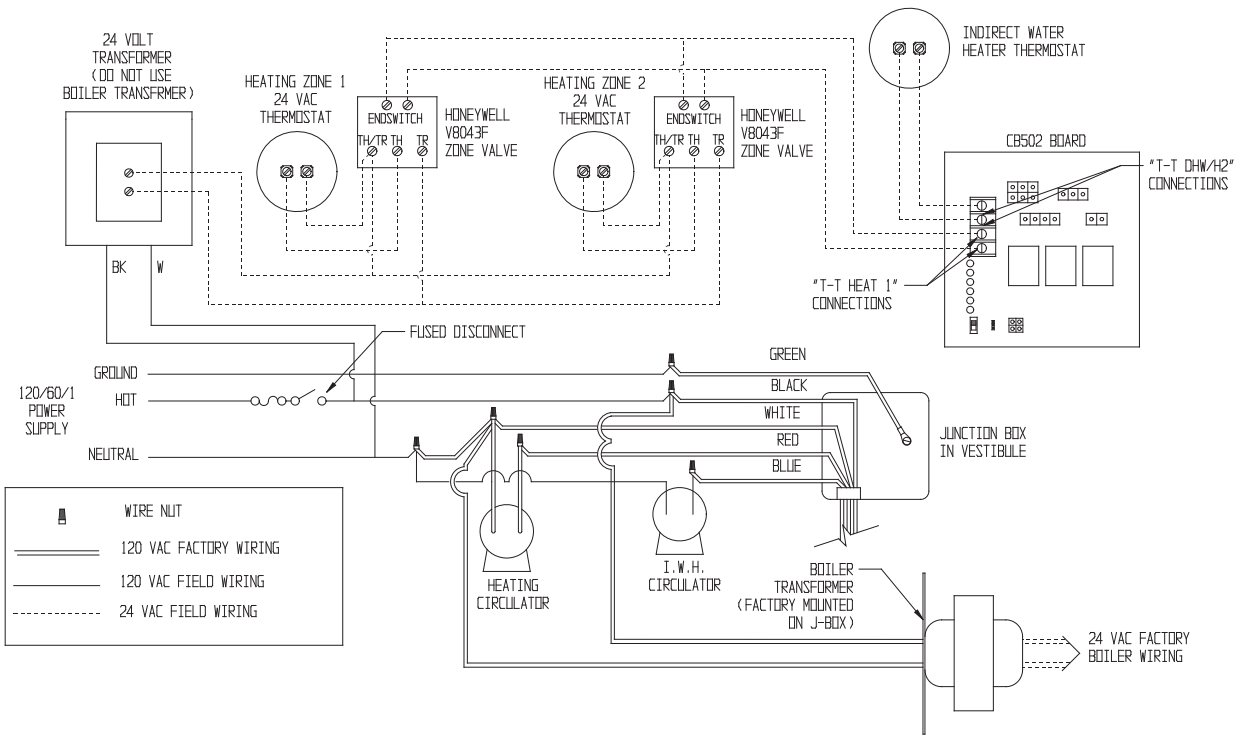

FIGURE 34: CB502 CONTROL SYSTEM - FIELD WIRING FOR HYBRID CIRCULATOR/ZONE VALVE SYSTEM
- 2) Hybrid Zone Valve/Circulator Zone System using Honeywell V8043Fs – The system shown in Figure 34 is useful when zone valves are to be used for space heating zones but not the indirect water heater zone. Two circulators are wired into the CWD boiler as shown in Figure 34. The zone valve end switches are connected in parallel and connected to the “T – T Heat” thermostat connections. A separate transformer is required to power the zone valves – **do not attempt to use the transformer supplied with the boiler.**